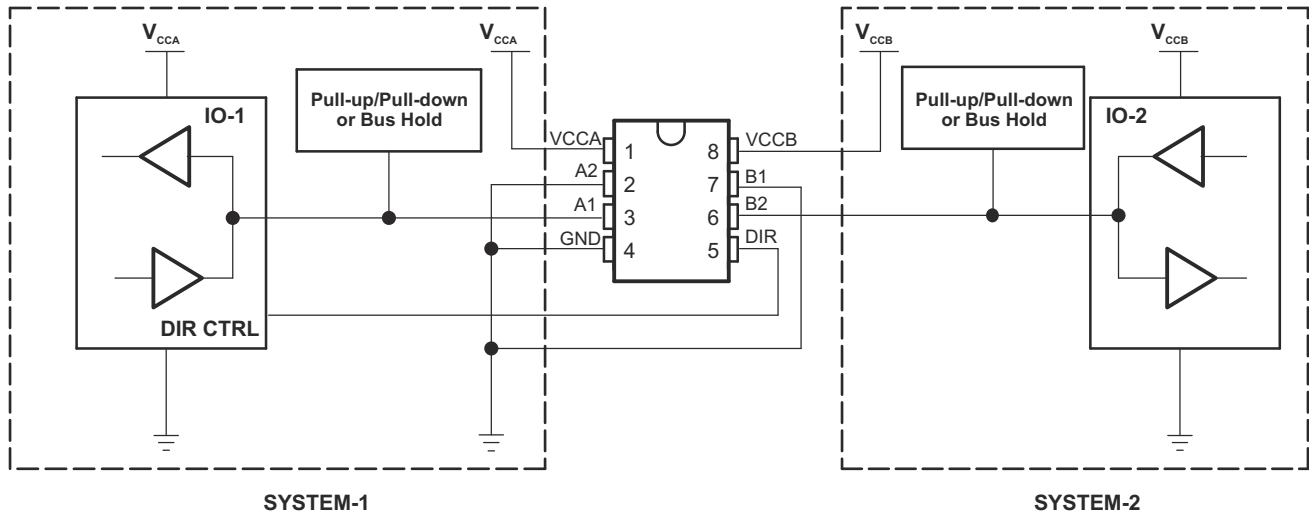

Figure 8-3. Bidirectional Logic Level-Shifting Application
Figure 8-3 shows the SN74AVCH2T45 used in a bidirectional logic level-shifting application. Because the SN74AVCH2T45 does not have an output-enable (OE) pin, system designers should take precautions to avoid bus contention between SYSTEM-1 and SYSTEM-2 when changing directions.